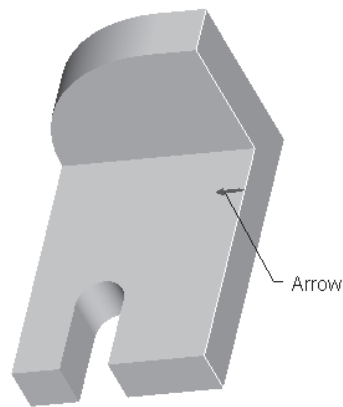

Figure 4-70 Arrow showing the direction of feature creation from the sketching plane
3. Using the CTRL+middle mouse button, spin the model and select the planar surface of the base feature shown in Figure 4-70 as the sketching plane.
4. Use the **Flip** option to flip the red arrow in the direction of extrusion as shown in Figure 4-70. The sketch will be extruded in the direction of the arrow.